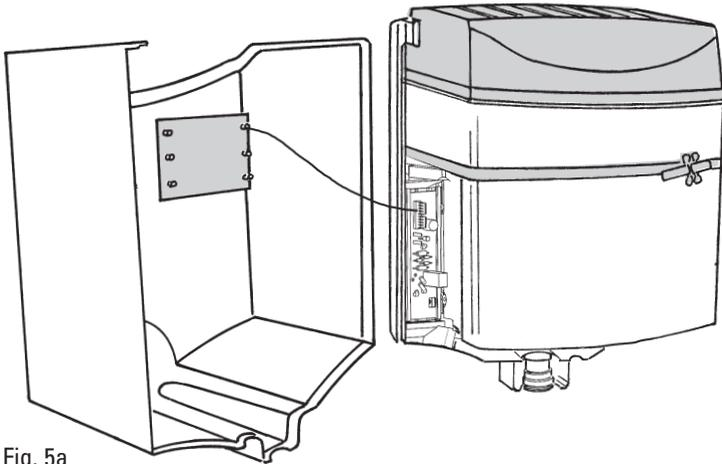
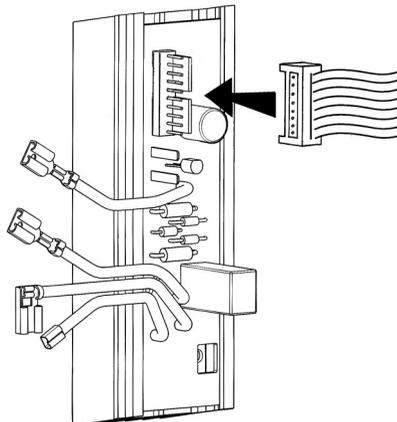

Fig. 5a
Fig. 5b
b) All the lights are out and the POWER button does not work	Ensure that the electricity supply is switched on at the isolator. Ensure that the flying lead to the front cover is connected properly (see Fig. 5a and Fig. 5b). Check the supply to the PCB. If supply OK then change PCB.